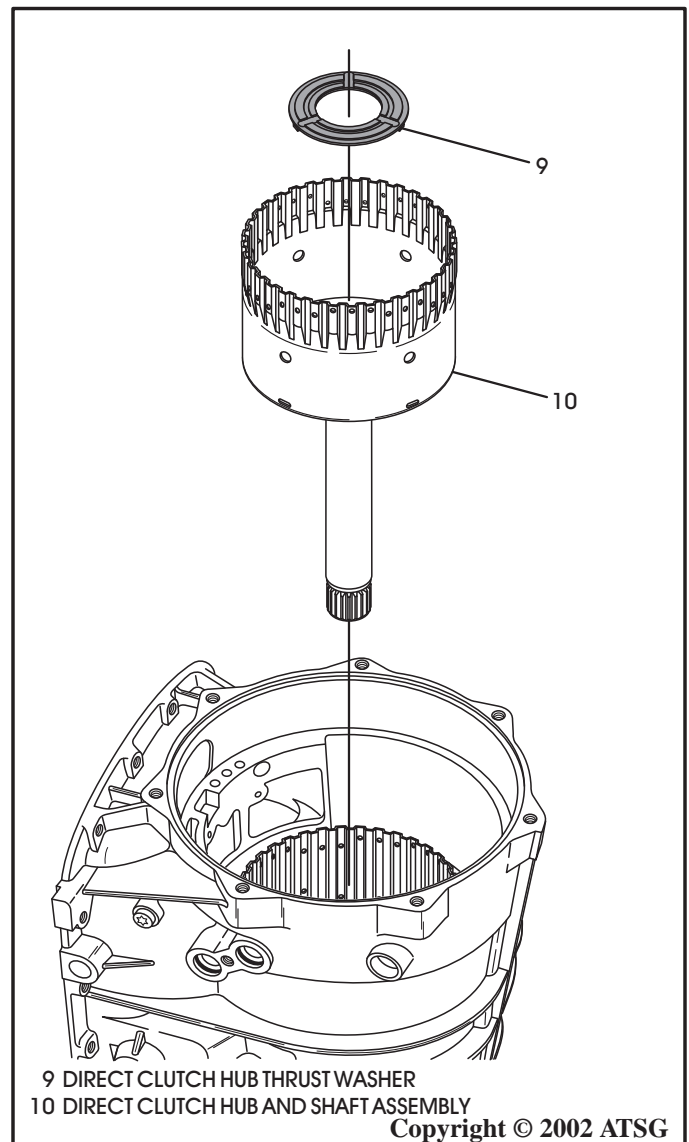

Figure 185
16. Install direct clutch hub thrust washer (9) into direct clutch hub, as shown in Figure 185, if not already done, and retain with small amount of Trans-Jel®.
17. Install the direct clutch hub assembly into the transmission, as shown in Figure 185, by rotating back and forth until fully seated.